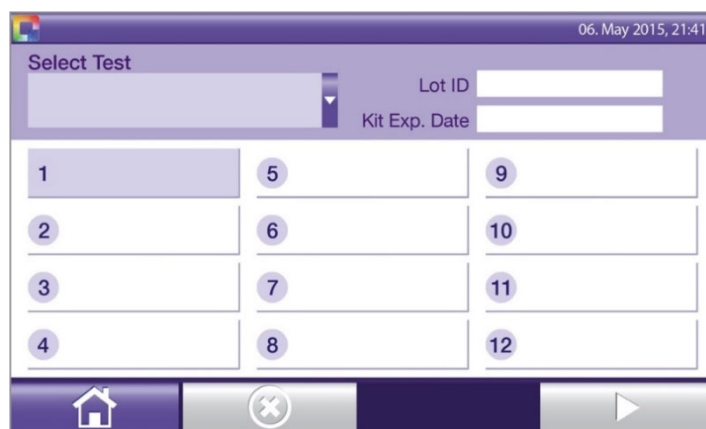

Figure 39
- The test method selection screen appears (**Figure 39**). The first tube is highlighted.